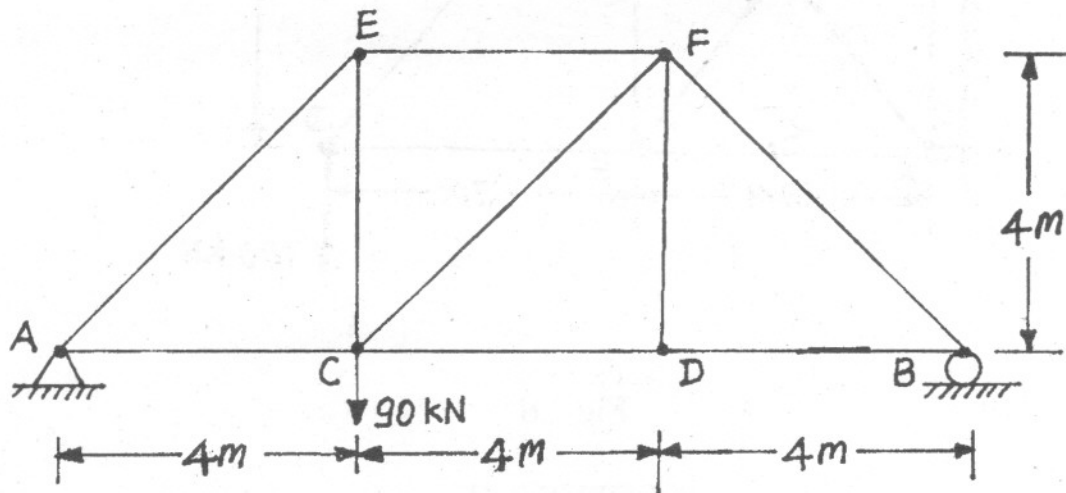

Fig. 7
5. Determine the vertical displacement of point C for the pin jointed frame shown in Fig. 7. The cross-sectional area of the members are  $1000 \text{ mm}^2$  and the modulus of elasticity is  $200 \text{ kN/mm}^2$ . Determine the magnitude of an additional vertical load  $W$  at D, necessary to increase the deflection at C by 50%. [16]